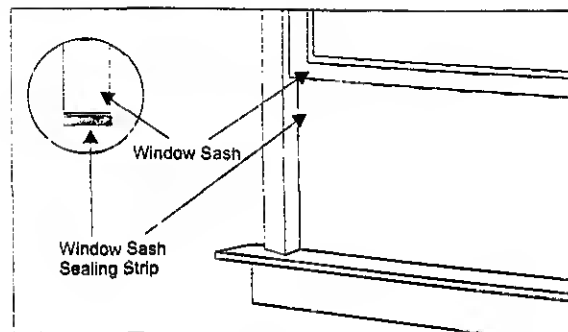

Fig 12
D. Cut the 1st foam sealing strip to fit the underside of the bottom **window sash**. Remove the peel-off backing on the foam and **attach** it to the sash. See (Fig 12)
D. Cut the **first foam sealing** strip to fit the underside of the bottom **window sash**. Remove the peel-off backing on the foam and attach it to this sash. See (Fig 12)